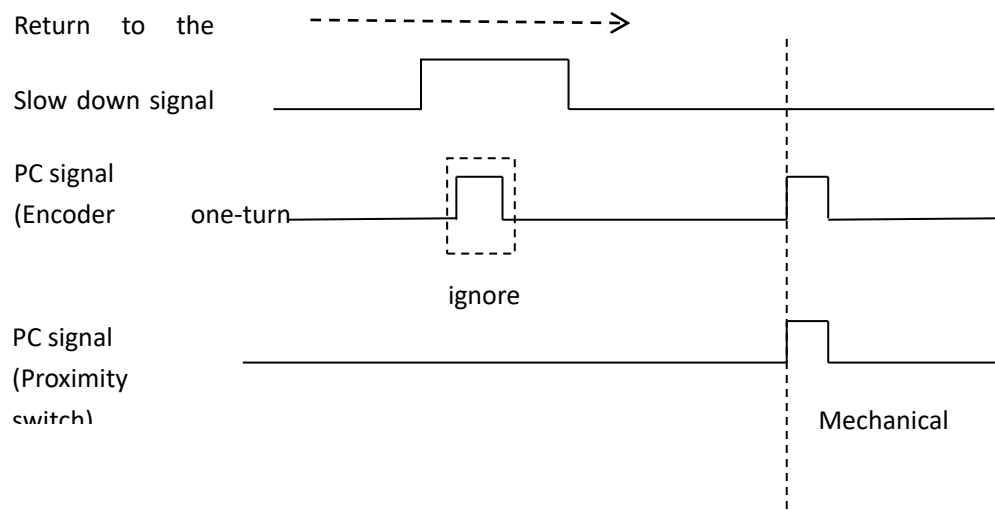

Figure 2-8 PC signal waveform diagram
- a) The waveform of the PC signal that the user should provide is shown in Figure 2-8 below: